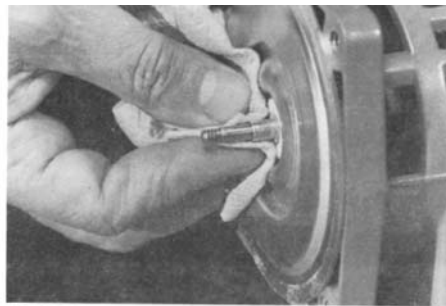

FIGURE 6
9. Push the rotor forward with the plastic assembly tool. Clean shaft and sleeve (fig 6).